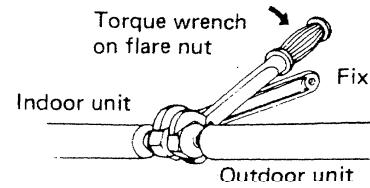

Fig. 29
2. Flare nut on large dia. tube should be torqued to 300 ~ 340lbs. in. (SAP 92KCH) or 430 ~ 470 lbs. in. (SAP 122KCH) or 520 ~ 560 lbs. in. (SAP 182KCH). Flare nut small dia. tube should be torqued to 130 ~ 170 lbs. in. Fig. 29